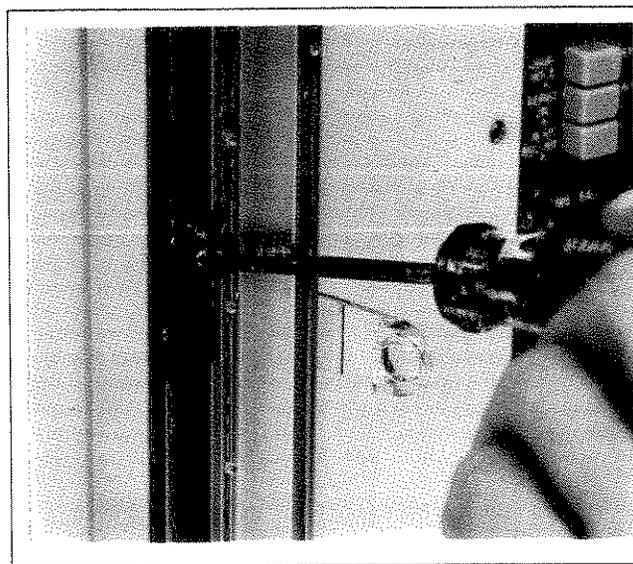

Figure 5-9. Y-Axis Cable Tension Adjustment
- f. Adjust tension screw in Y-slider block until tension on Y-axis stringing is enough to stall Y-motor. (See Figure 5-9).